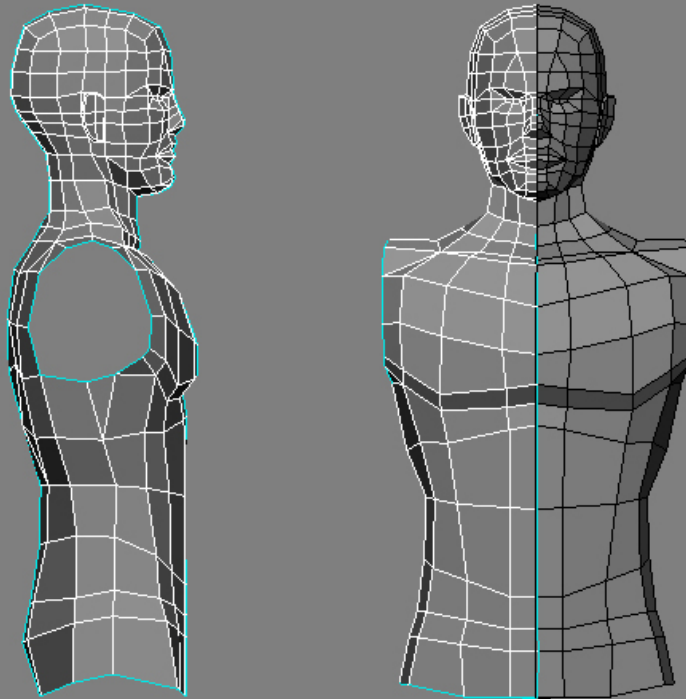

Fig 15
15. Now it's time to give all these vertices some order. Use Fig15 as a reference to reshape the vertices. Work in front view first, then in side view, and always keep an eye on the Camera view to see how the model looks in 3-dimensions.